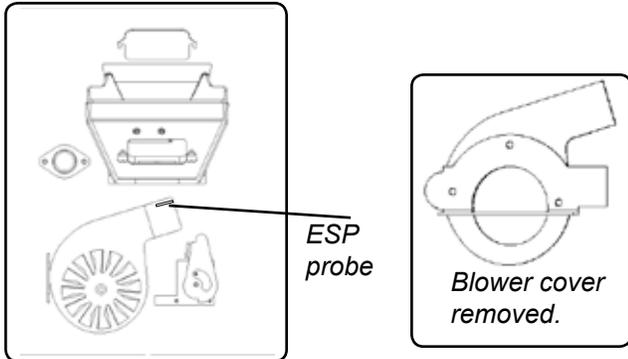

Fig. 30
9. Use a brush to clean the flue, being careful not to damage the ESP probe, see Fig. 30. The flue goes straight through into the vent pipe (Fig.27) therefore, the vent pipe can also be cleaned to some extent through the flue outlet.